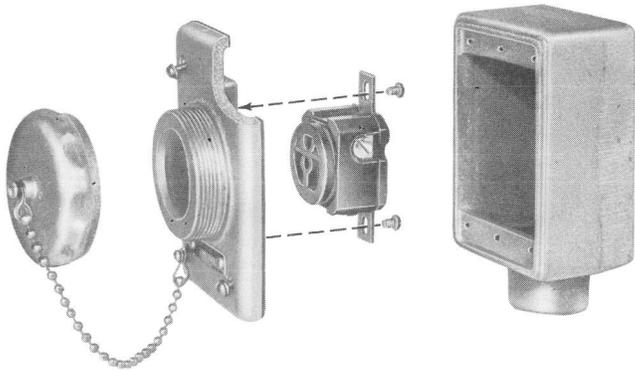

Fig. 5—Typical Weatherproof Power Receptacle
**2.05** A weatherproof power receptacle (Fig. 5), supplied by local electrician, should be used on all outdoor installations using the KS-19580, List 30 or List 31 power cords.